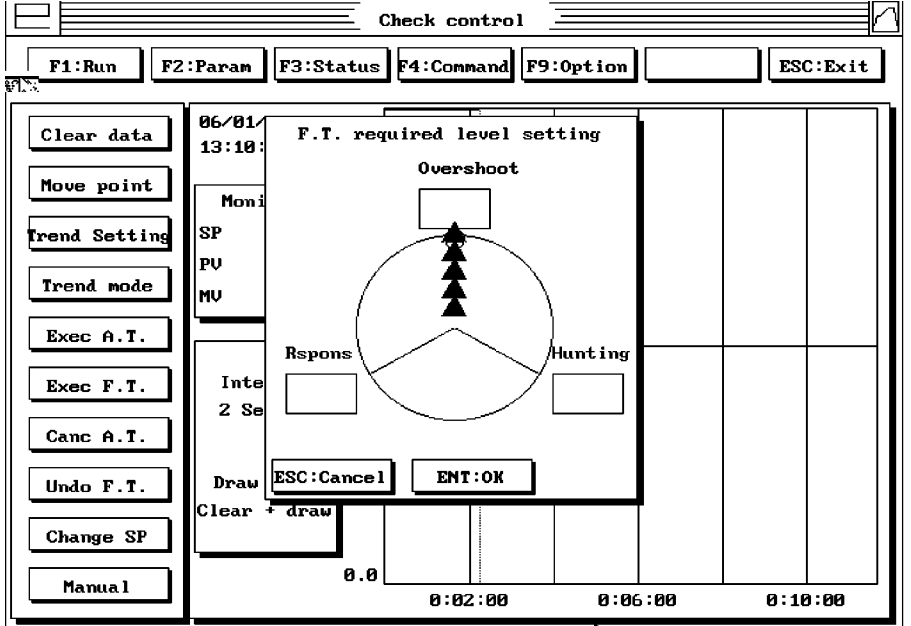

Figure 33
- 4. Enter the appropriate PID set number and select **ENT: OK**. A new pop-up window will appear Figure 33.